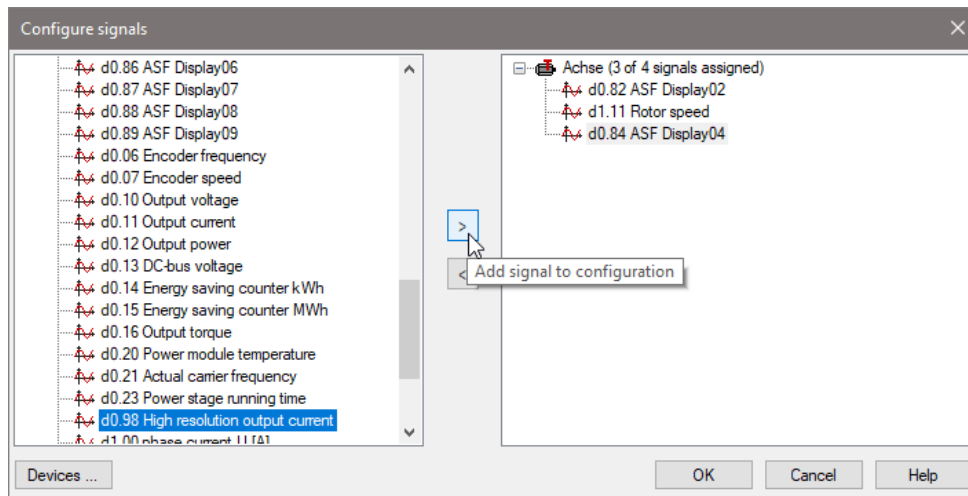

Fig. 19: Adding signals
- ▶ Add the following signals to the measurement by marking the signal and then clicking on ">" (see Fig. 19: Adding signals).